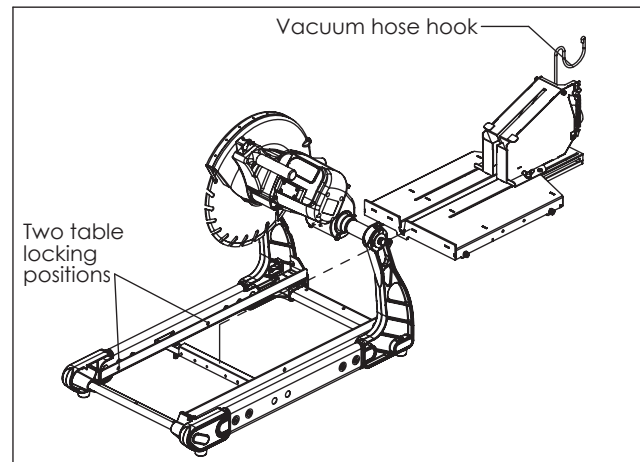

Figure 6: Underside view of the saw
1. Install the vacuum table from the back of the saw as shown in Fig. 6. Notice the vacuum hose hook on the sliding vacuum attachment prevents the table from going forward to a certain degree. This is to prevent the blade from cutting the vacuum table. Mount table brackets previously not assembled per Fig. 3 instructions.
2. Notice the two holes on the left rail as shown in Fig. 6. Like the traditional table for wet cutting, the vacuum table can also be locked in these two positions using the table lock.